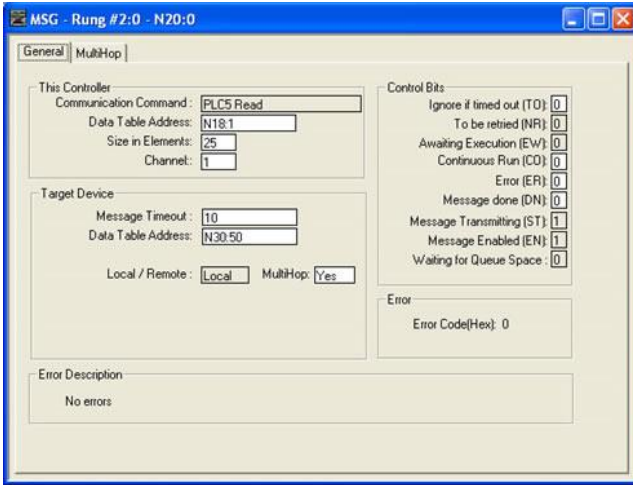

Figure 64: MSG Configuration, "General" Tab
- b) Upon hitting the <ENTER> key while in the “Control Block” entry box, the MSG Properties dialog box should appear (or it can be opened by clicking on the “Setup Screen” button at the bottom of the MSG instruction). Refer to Figure 64.